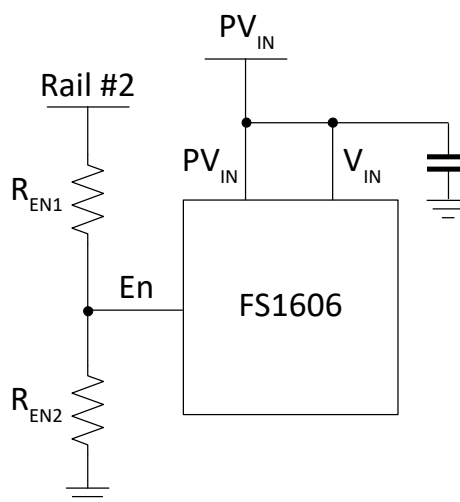

Figure 10 En pin used to monitor other rails for sequencing purposes
- It can be used to monitor other rails for a specific power sequencing scheme (Figure 10).